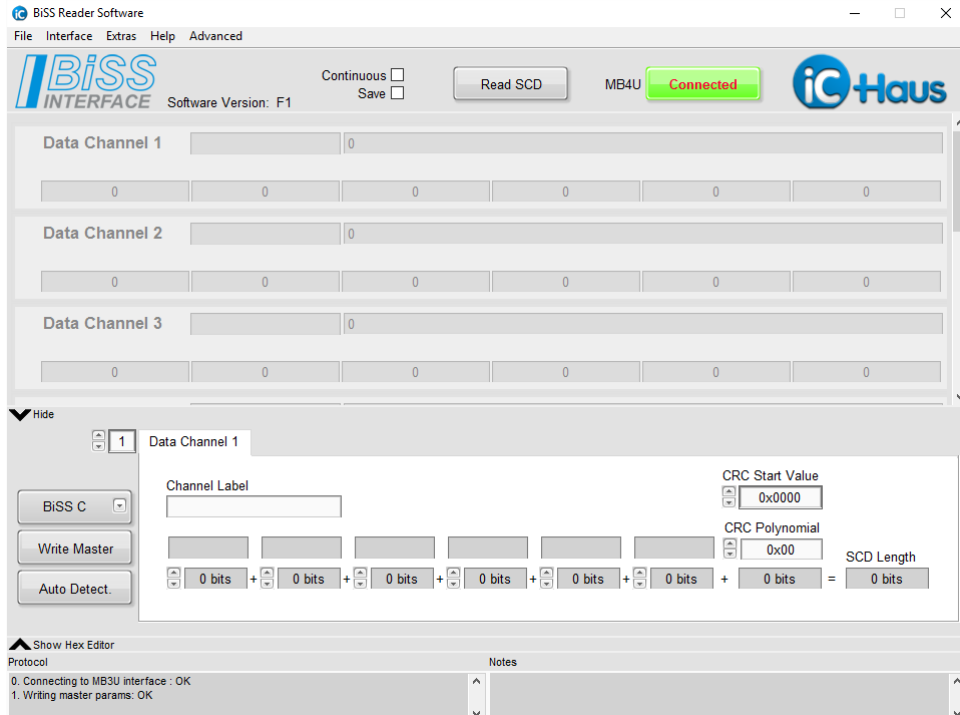

Figure 2: Start screen with connected adapter
3. Installation will make the BiSS software available in the selected working directory. The execution of this file will start the software. Figure 2 shows a screenshot of the start up window.